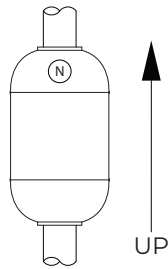

Figure 2.1
- The float(s) is/are oriented properly on the stem (See Figure 2.1). MPX-T floats are typically installed by customer.